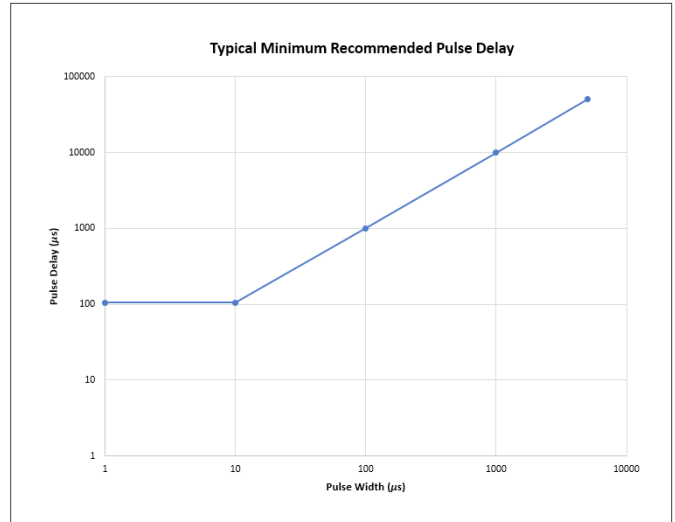

FIGURE 4
- Valid for continuous pulse mode only. For all other modes, as the pulse width becomes large relative to the pulse delay, the actual pulse delay may be longer than the programmed pulse delay due to time required for measurement processing. Typical minimum pulse delay settings for a given pulse width can be seen in the graph in **Figure 4**.
- Brazil** +55 (11) 3759 7627